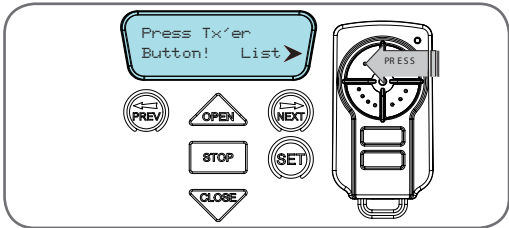

Fig G.2
- Press the transmitter once (**Fig. G.2**).